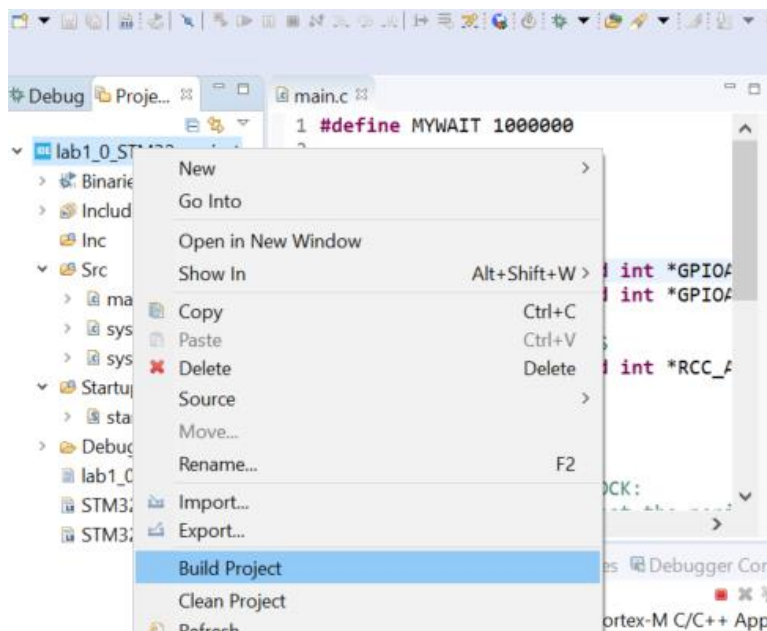

Figure 13: Build command.
- To compile the code, right click on the name of the project in the Project Explorer window and select *Build Project* (Figure 13). Alternatively, you can click on the hammer symbol or directly launch *Build All* from the Project menu. Compilation errors are provided in both Console and Problems windows. By clicking on an error, you can jump to the related instruction in the source file and correct it.